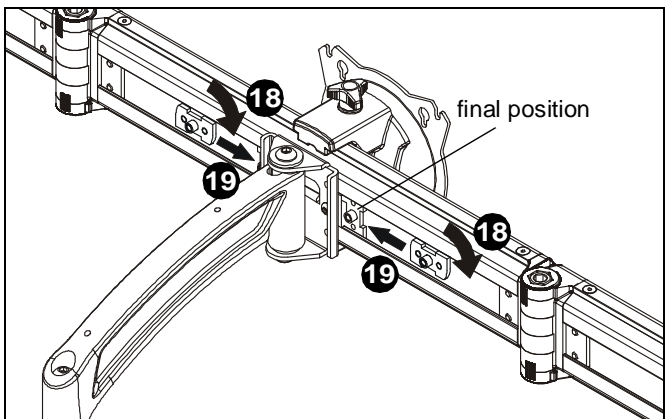

Figure 11
- 18. (K4G310 only) Rotate channel attachments (J) 90° clockwise. (See Figure 11)
- 19. (K4G310 only) Slide channel attachments (J) toward arm assembly (Z) to prepare for handle installation. (See Figure 11)